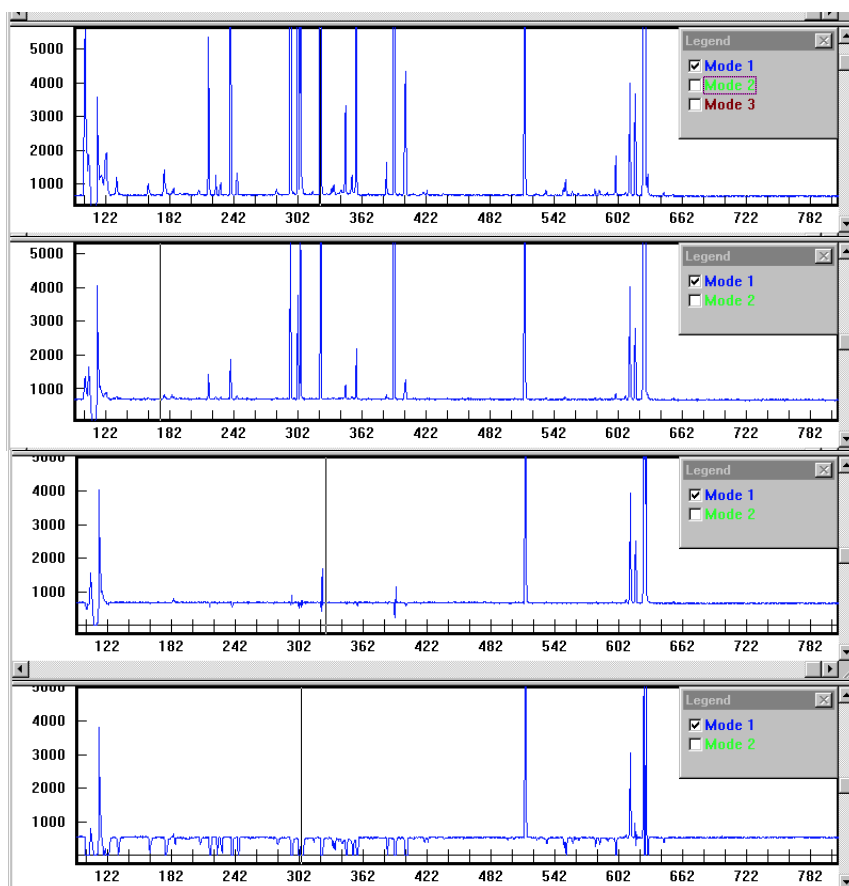

Figure 5.5. Post-Run Optimization of Dual Gate to Eliminate S Interferences in a P-Optimized Analysis
4. Evaluate the chromatogram. Repeat steps 2-3 until the proper Alpha value is obtained. (See Figure 5.5.)